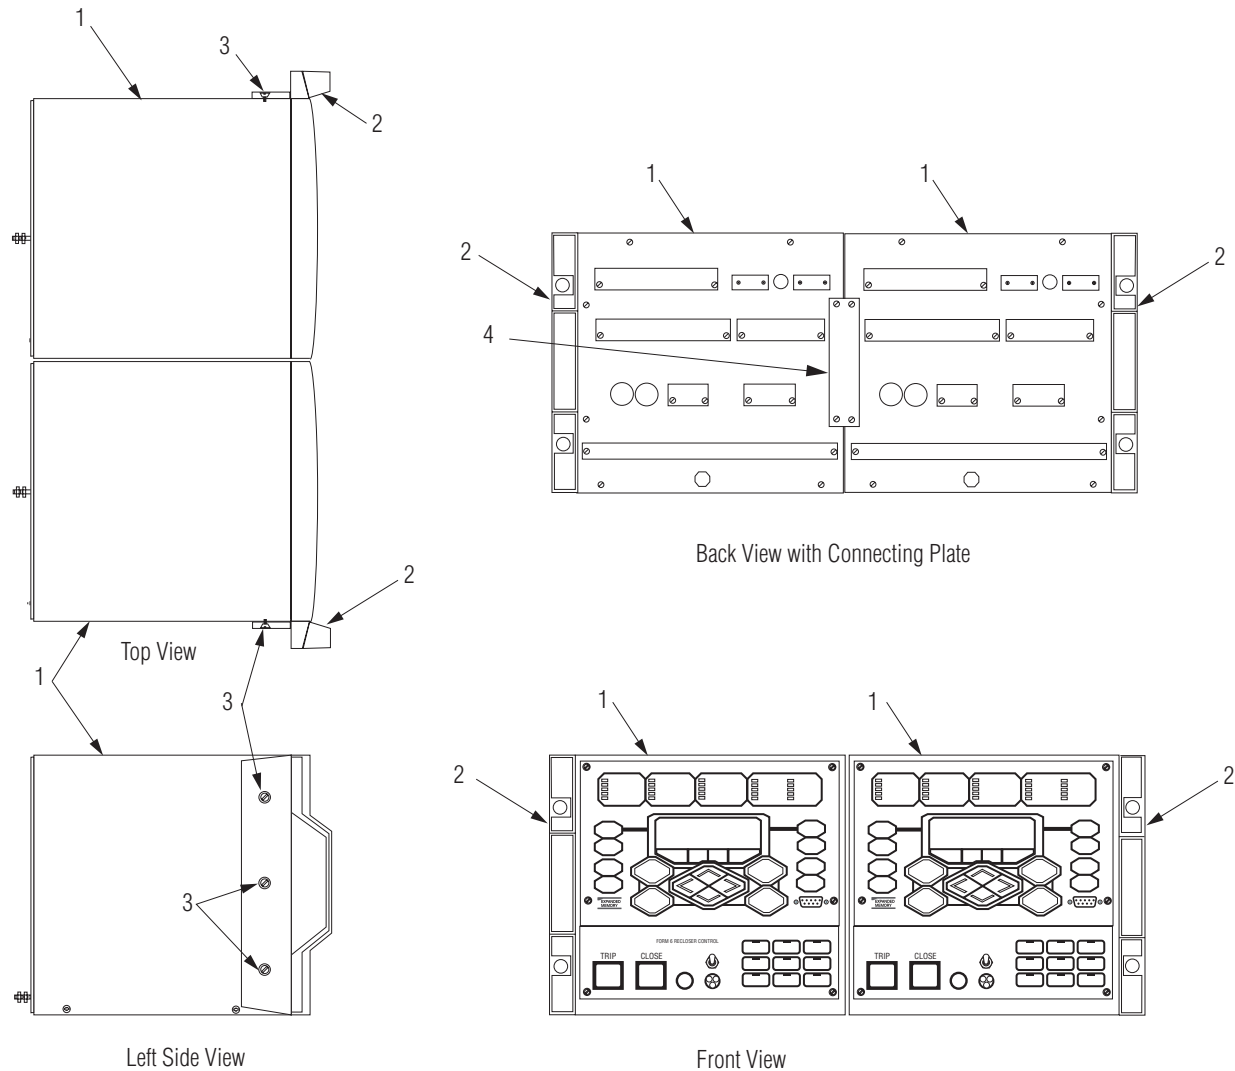
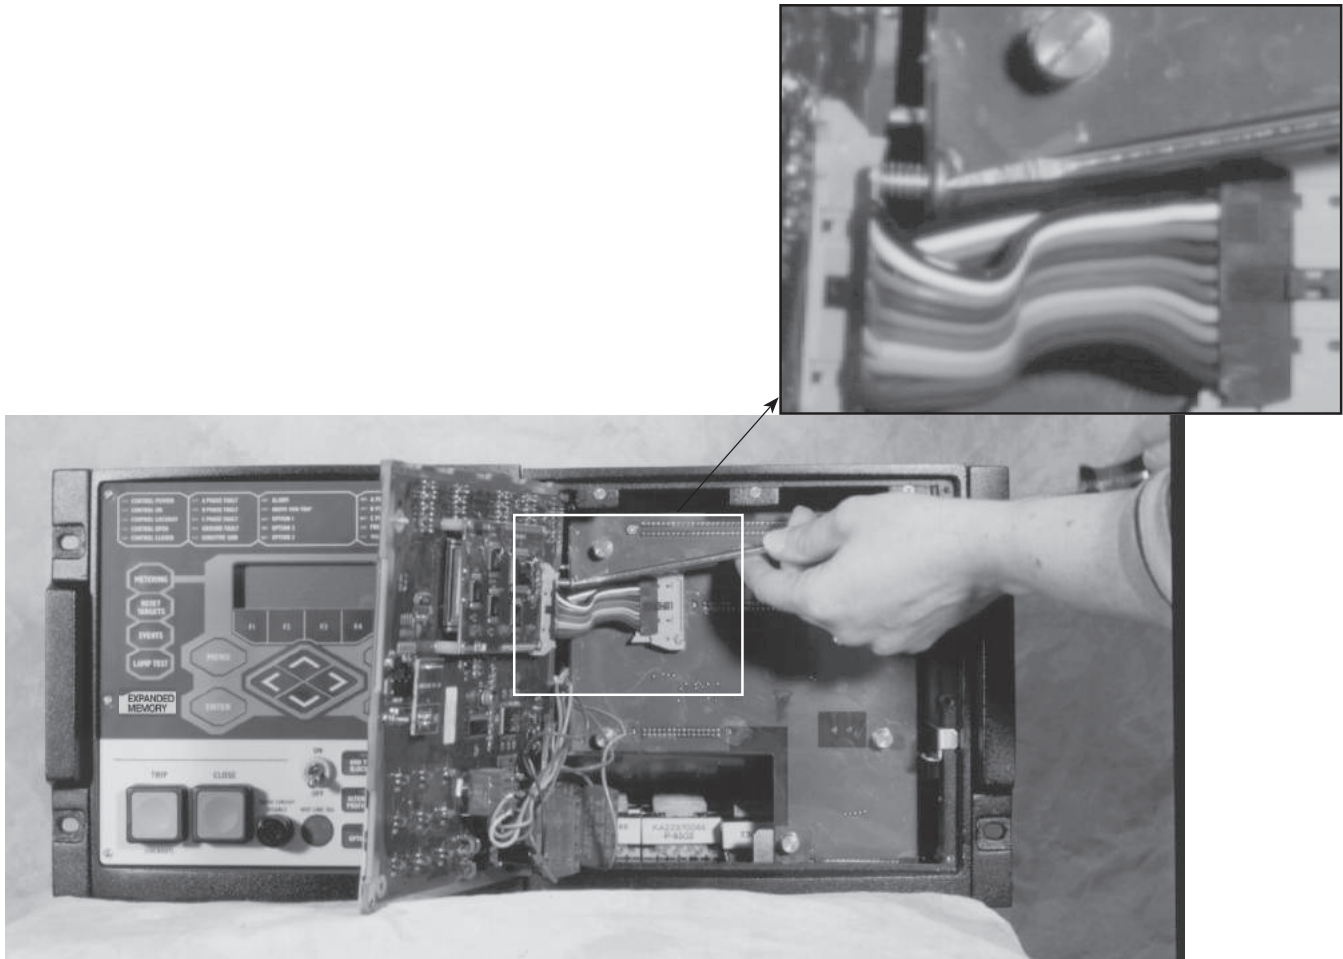

Figure 28. Form 6 double rack mount recloser control
Figure 29. Connect double rack mount controls with #10-24 screws
These controls are shipped without the handles or connecting plate attached. Refer to **Figure 28** and **Figure 29** and follow this procedure to attach the handles and connecting plate and then secure the two controls together.
1. Orient the handles and controls as illustrated in the Front View in **Figure 28**.
2. Attach one handle (Item 2) to each control (Item 1) using three #10-32 Flat Head Screws (Item 3) per handle as illustrated in **Figure 28**.
1. Remove the two middle screws from the back of each control with a Phillips head screwdriver as illustrated in **Figure 28**.
Table 12. Form 6 recloser control double rack mount accessory attachment parts list (Figure 28)
Connecting two Form 6 rack mount recloser controls requires removing the front panel from the control (right-side) as shown in **Figure 29**.
2. Pull the right side of the right control front panel out towards the left (**Figure 29**).
Note: Various connecting wires will keep the panel attached to the control (**Figure 29**). It is not necessary to disconnect any wires.
3. Use a long flathead screwdriver to screw each #10-24 screw (Item 5, **Table 12**) right to left into the pre-threaded holes (**Figure 29**).
4. Tighten screws completely (**Figure 29**).